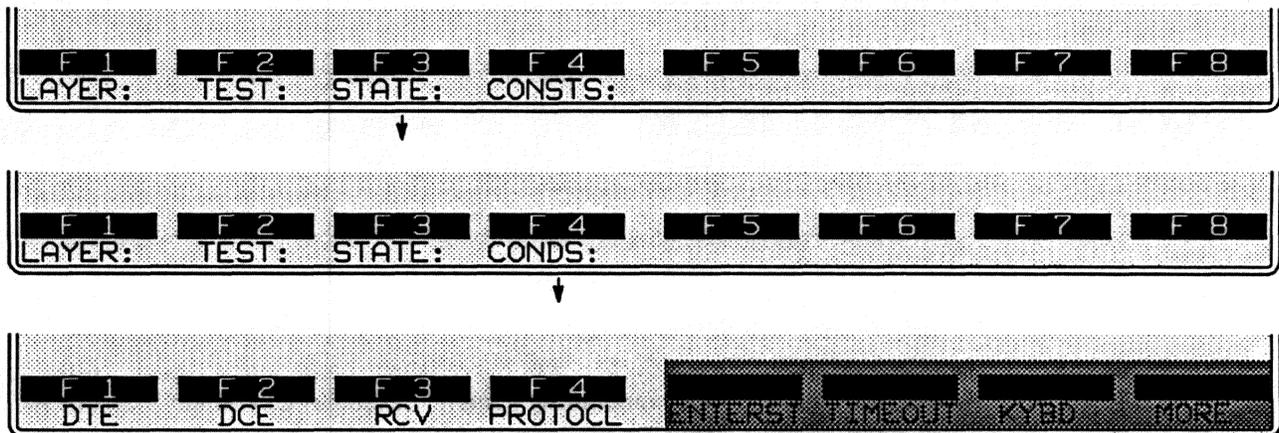

Figure 33-8 Unlike RCV conditions, the softkeys for DTE and DCE are valid when the INTERVIEW is monitoring the line passively.
- A group of conditions and actions at Layer 2 on the Protocol Spreadsheet that facilitate X.25 programming. Figure 33-8 shows the softkey path to the first rack of condition softkeys when the X.25 package is loaded in at Layer 2.
When the Layer 2 X.25 personality package is loaded in (via the Layer Setup screen), a set of conditions checks DTE and DCE leads both in monitor and emulate modes. This set of conditions is accessed by the DTE and DCE selections on the first rack of condition softkeys at Layer 2. See Figure 33-8.